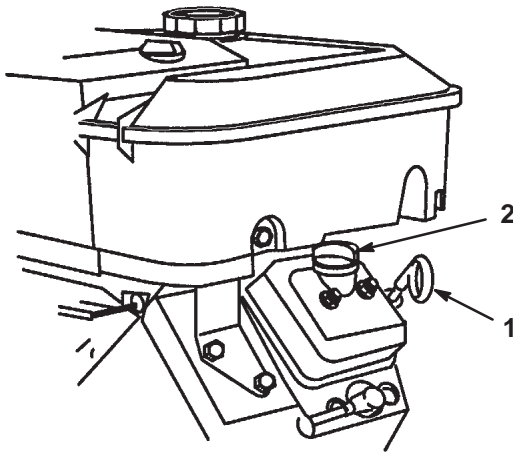

Figure 2
2. Clean around the oil dipstick (Fig. 2) so dirt cannot fall into the hole and damage the engine.
4. Slide the oil dipstick fully into the filler tube, but do not thread it onto the tube. Pull the dipstick out and look at the metal end. If the oil level is low, remove the filler cap from the valve cover (Fig. 2) and pour oil into the opening until the oil level is up to the "FULL" mark on the dipstick; refer to Servicing the Engine Oil, page 22, for the proper oil type and viscosity. Add the oil slowly and check the level often during this process. **Do not overfill.**